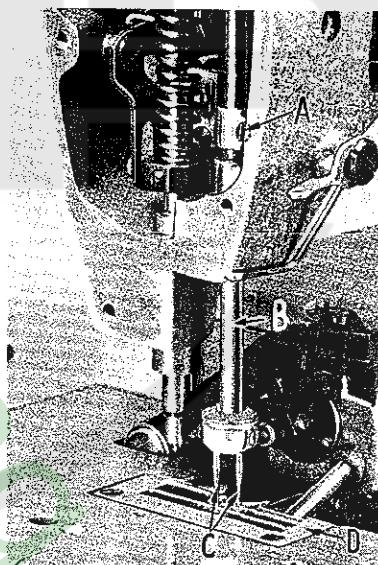

Fig. 2
Align needle bar by using a new set of needles Type 108 GS, of a size to meet the requirements. Loosen screw (A, Fig. 2) and turn needle bar (B) so that the needles (C) center in the front end of the needle slots in the throat plate (D), and retighten screw. The height of the needle bar is set so that the top of the rear needle's eye is $1/32$ inch below the back looper, when point of looper, moving to the left, is even with the left side of this needle.